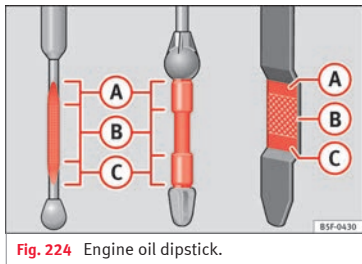

Fig. 224 Engine oil dipstick.
- Then pull it out once more and check the oil level »» Fig. 224. Top up with engine oil if necessary.